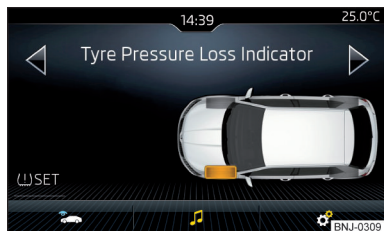

Fig. 230
- Tap the functional surface SET interface» Fig. 230.
When a warning light in the instrument cluster appears, the affected tyre can be displayed on the infotainment » Fig. 230.